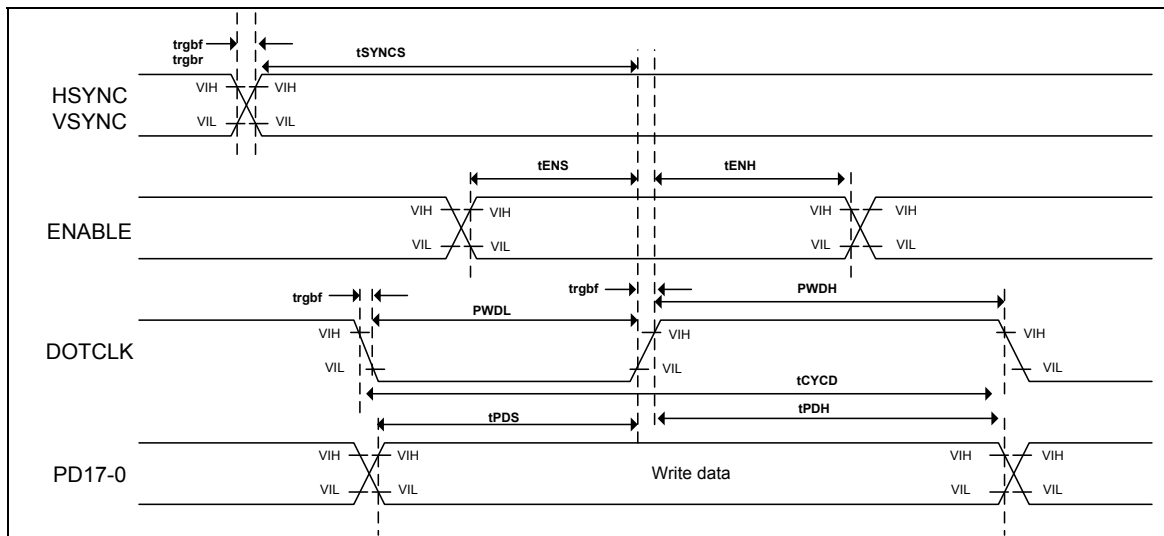

Figure 84 RGB interface operation
**Table 103** See Figure 84 (18/16-bit I/F, IOVcc = 1.65 to 3.30V, Vcc = Vci = 2.50 to 3.30V)